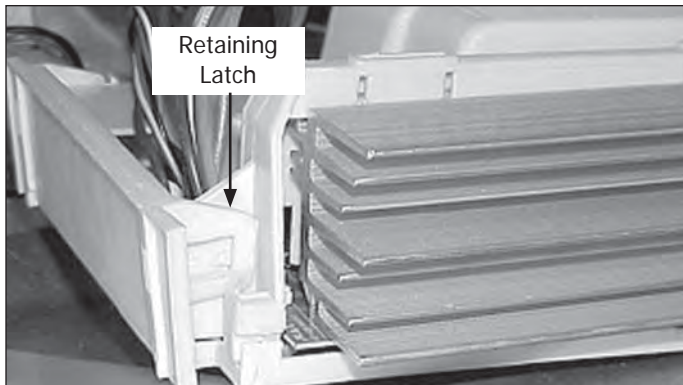

Figure 4-92.
5. Release the latch on each end of the speed control housing and raise the top flap. (See Figure 4-92)